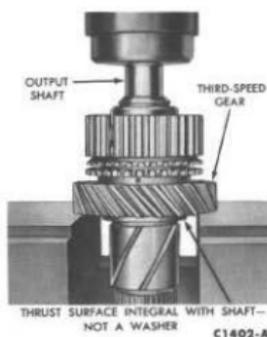

FIG. 59—Removing 3rd Gear and 3rd and 4th Synchronizer Hub
17. With snap ring pliers, remove the snap ring from in front of the 3-4 synchronizer on the output shaft. Press the third gear and the 3-4 synchronizer off the shaft as shown in Fig. 59.